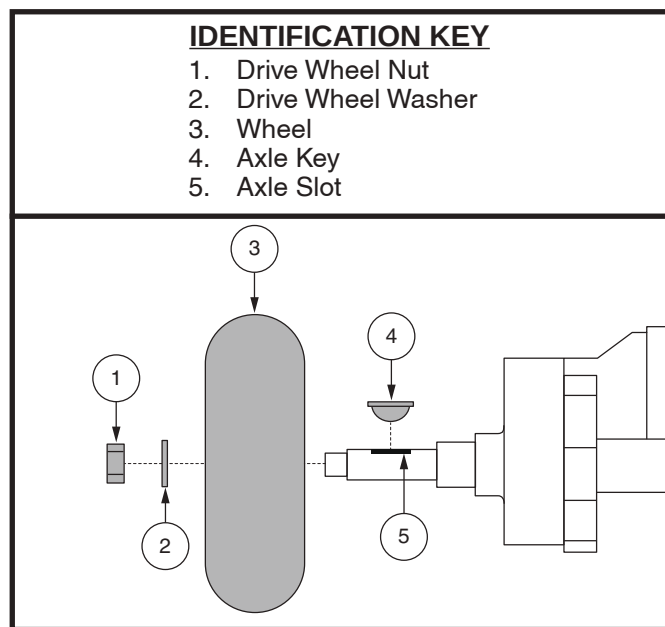

Figure 39. Wheel Replacement
3. Remove the drive wheel nut and washer from the axle. See figure 39.